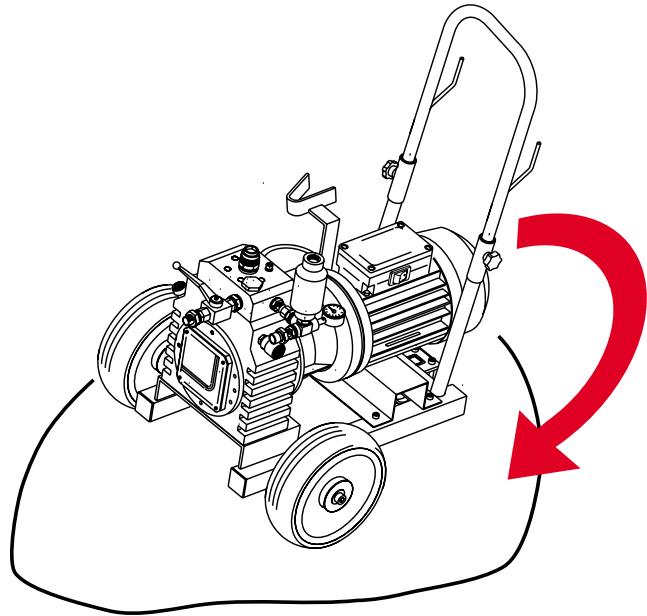

Fig.25
- 2) Check to make sure that the pump is in a stable position to avoid it falling (fig. 25).